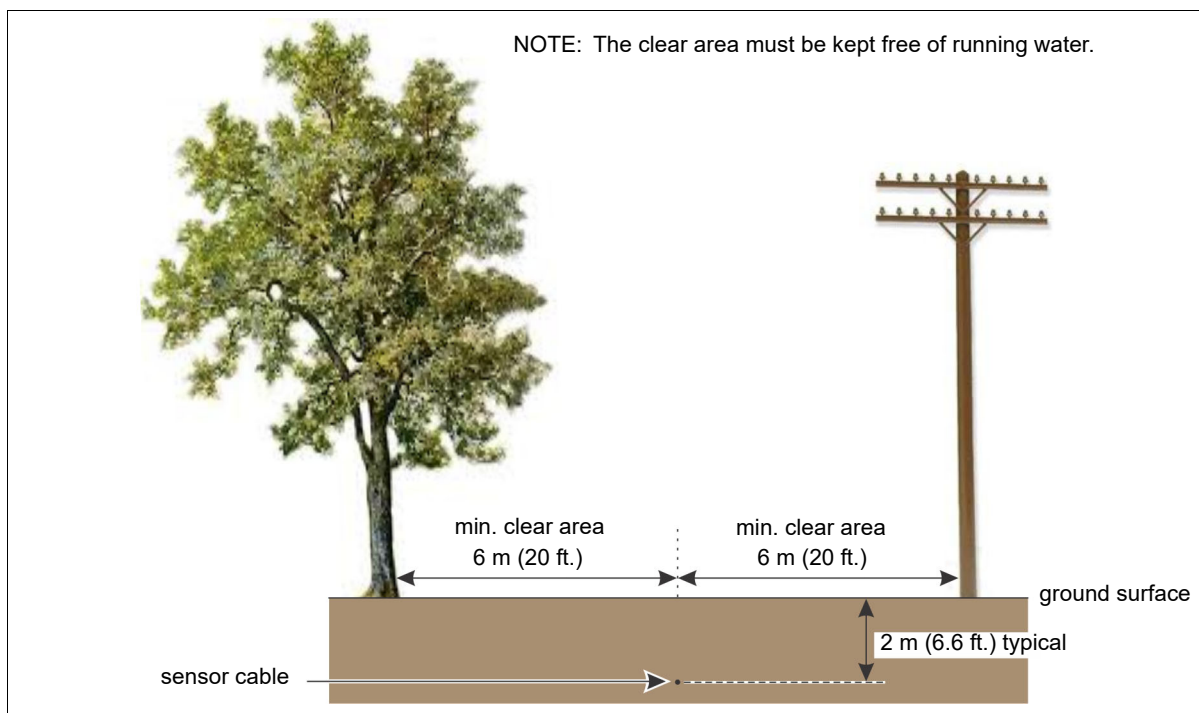

Figure 65: Minimum separation distances from obstacles
- recommended clearance: minimum 6 m (20 ft.) of clearance on each side of the sensor cable to prevent vibrations created by an object from disturbing the cable; total clear area centered over cable 12 m (40 ft.) (see Figure 65:) (e.g., fences, sign posts, utility poles, trees, bushes and vegetation over 30 cm high, etc.)